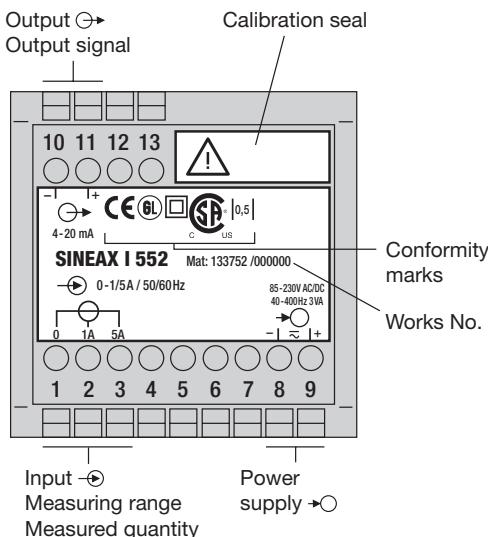

Fig. 6. Declaration to type label.
- ... the data required to carry out the prescribed measurement must correspond to those marked on the nameplate of the SINEAX I 552 ($\rightarrow \oplus$ measuring input, $\rightarrow \ominus$ measuring output and $\rightarrow \circlearrowright$ power supply, see Fig. 6)!